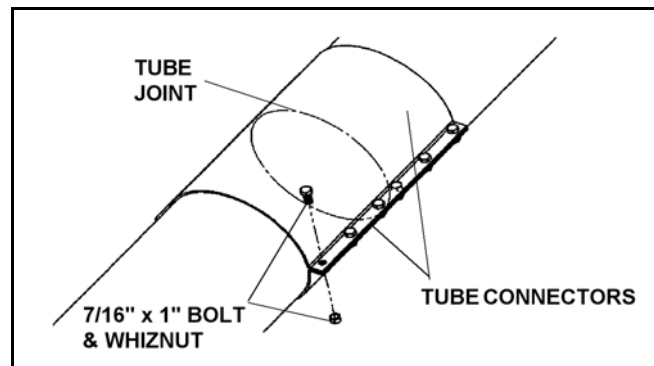

Figure 3.2
- Fasten tube connectors together with twelve 7/16" x 1" bolts and whiznuts and tighten securely (Figure 3.2).